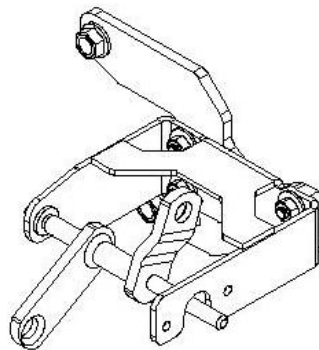

Figure 8
50. Locate transfer case linkage u-bracket, mounting plate, and **HK #119** (figure 8)